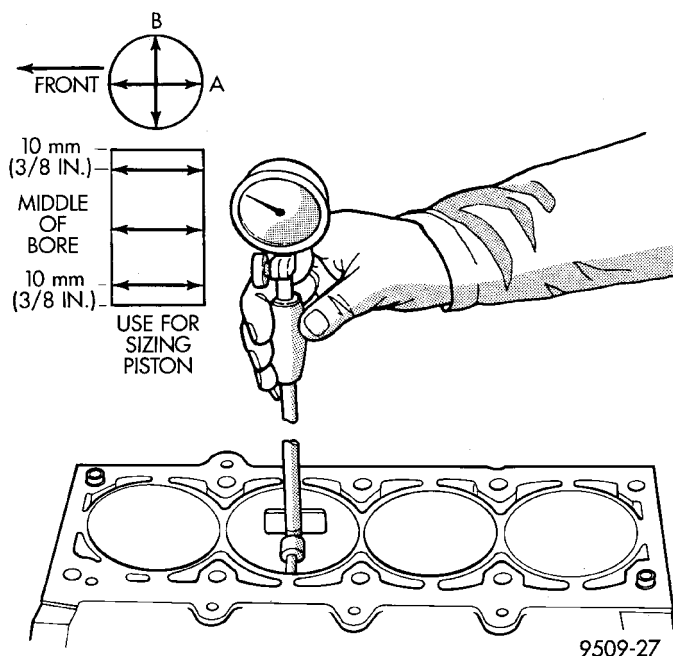
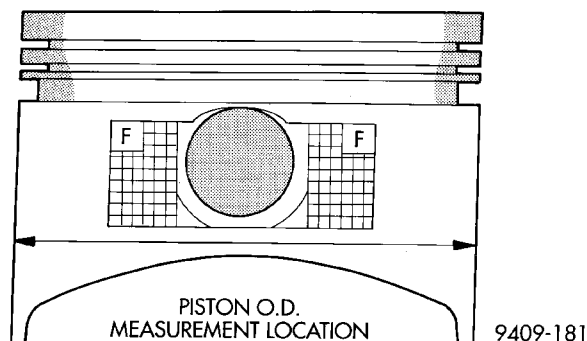
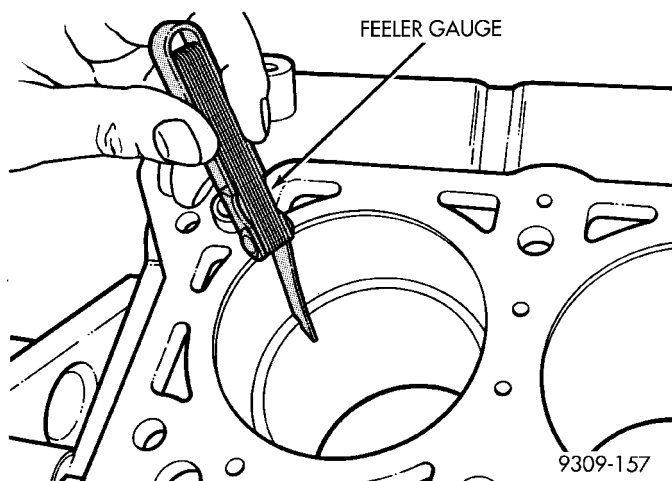
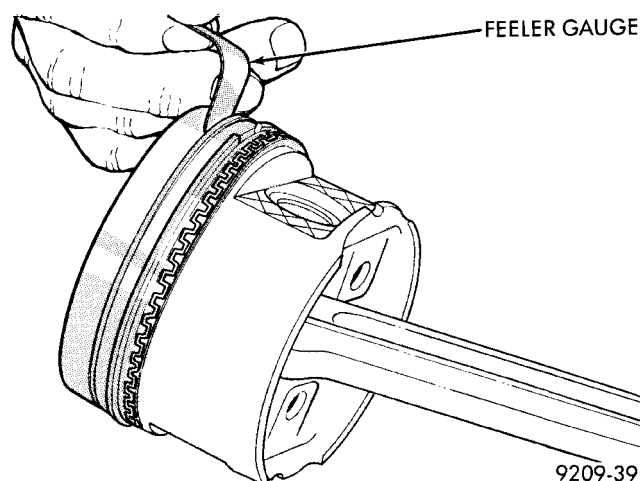

Fig. 4 Checking Cylinder Bore Size
Fig. 5 Piston Measurements
Fig. 6 Piston Ring Gap
Fig. 7 Piston Ring Side Clearance
The cylinder walls should be checked for out-of-round and taper with Tool C-119 (Fig. 4). The cylinder bore out-of-round is 0.050 mm (.002 inch) maximum and cylinder bore taper is 0.051 mm (0.002 inch) maximum. If the cylinder walls are badly scuffed or scored, the cylinder block should be rebored and honed, and new pistons and rings fitted. Whatever type of boring equipment is used, boring and honing operation should be closely coordinated with the fitting of pistons and rings in order that specified clearances may be maintained. **Refer to Honing Cylinder Bores outlined in the Standard Service Procedures for specification and procedures.**
Measure the cylinder bore at three levels in directions A and B (Fig. 4). Top measurement should be 10 mm (3/8 inch) down and bottom measurement should be 10 mm (3/8 inch.) up from bottom of bore. Refer to Cylinder Bore and Piston Specifications Table.
Piston and cylinder wall must be clean and dry. Piston diameter should be measured 90 degrees to piston pin about 17.5 mm (11/16 inch) from the bottom of the skirt as shown in (Fig. 5). Cylinder bores should be measured halfway down the cylinder bore and transverse to the engine crankshaft center line shown in (Fig. 4). Refer to Cylinder Bore and Piston Specifications Table. Correct piston to bore clearance must be established in order to assure quiet and economical operation.
(1) Wipe cylinder bore clean. Insert ring and push down with piston to ensure it is square in bore. The ring gap measurement must be made with the ring positioning at least 12 mm (0.50 inch) from bottom of cylinder bore. Check gap with feeler gauge (Fig. 5). Refer to specifications (Fig. 7).
(2) Check piston ring to groove side clearance (Fig. 6). Refer to specification (Fig. 7).